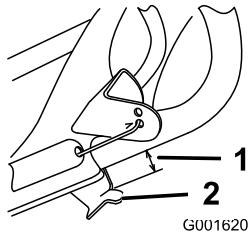

Figure 20
2. Ensure that a 1/8 to 1/4 inch (3 to 6 mm) gap exists between the control bar bracket and the handle (Figure 20).